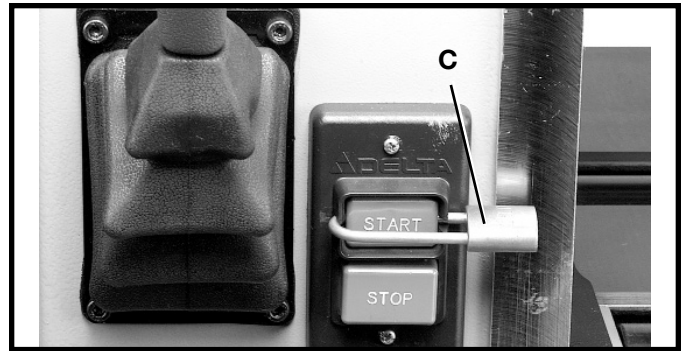

Fig. 14
IMPORTANT: When the machine is not in use, the switch should be locked in the "OFF" position to prevent unauthorized use, using a padlock (C) Fig. 14 with a 3/16" diameter shackle.